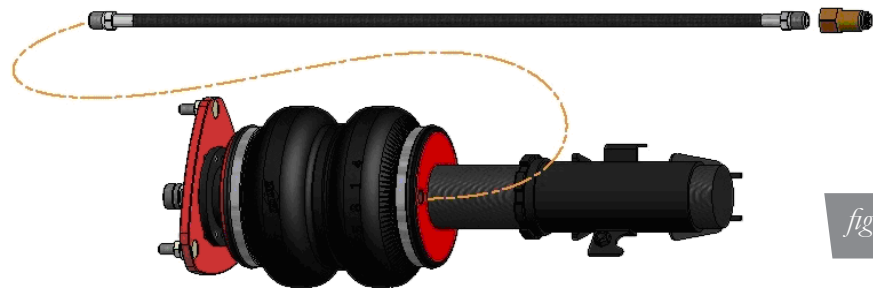

fig. 5
1. Begin by installing the leader line (C) into the air spring (fig. 5). Wrap the threads of the leader hose with Teflon tape or thread sealant. Tighten the appropriate fitting (D or E) to the airline 1 ¾ turns beyond hand tight. Tighten the leader line into the air spring 1 ¾ turns beyond hand tight.